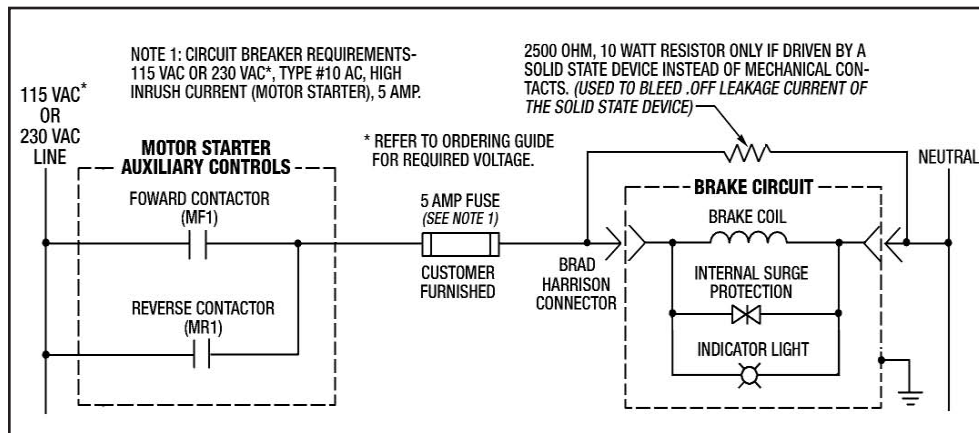

Figure 3.7 - Electrical Wiring Diagram
2. Push the Fan (#120) back against the small shoulder on the Hub (#2), then slide the Brake Unit onto the motor shaft as far as it will go. Align the (4) mounting holes with the motor and attach with (4) Mounting Bolts (#149) and (4) Lockwashers (#127). Finger tighten the (4) bolts. **Make sure the brake is snug against the motor face.**
3. Connect the electrical service to the Brad-Harrison Connector and actuate the brake coil to release the brake. (See Figures 3.7 & 3.8)
3. Connect the electrical service to the Brad Harrison Connector and actuate the brake coil to release the brake. (See Figures 3.7 and 3.8)
4. Evenly torque the (2) Screws in the Clamping Collar (#111) to **20 Lb. Ft.**